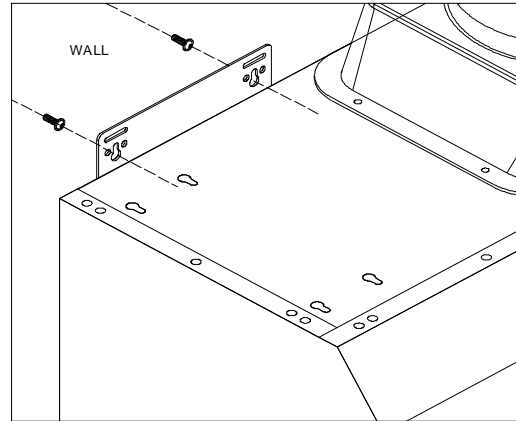

Figure 13
1. Using references in Table 2 and Measurements and Diagrams on pages 19-20, mark the leveling point of the hood. Position two mounting screws (not provided) on the wall, leaving 1/8" away from the wall. Refer to Figure 13